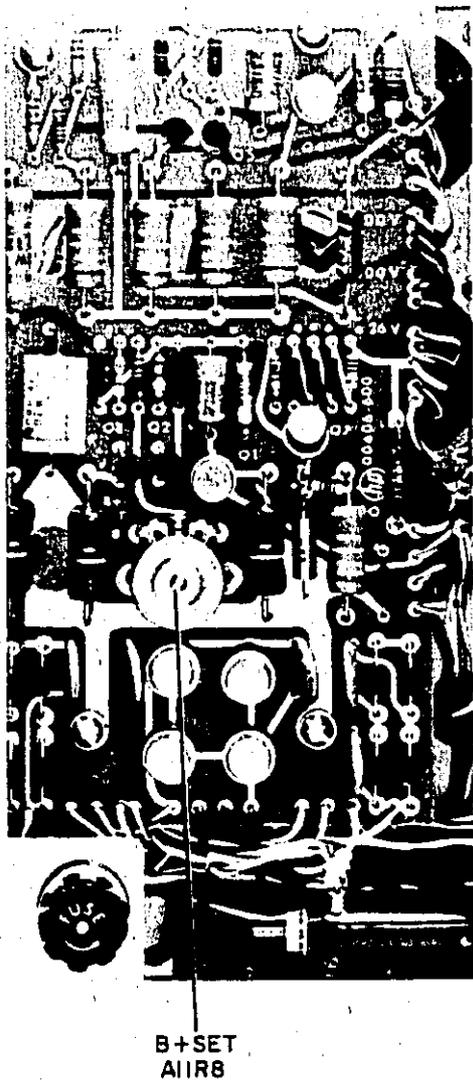

Figure 5-7. Power Supply Adjustment Location
- If the output voltage of the +300-volt supply is outside the limits in the table adjust B+ SET potentiometer A11R8 for +300 volts. See Figure 5-7 for adjustment location.
c. You may wish to check the regulation of the power supplies as the line voltage is varied between 103 (206) and 127 (254) volts. All regulated voltages should remain within  $\pm 1\%$  over this range of line voltage.